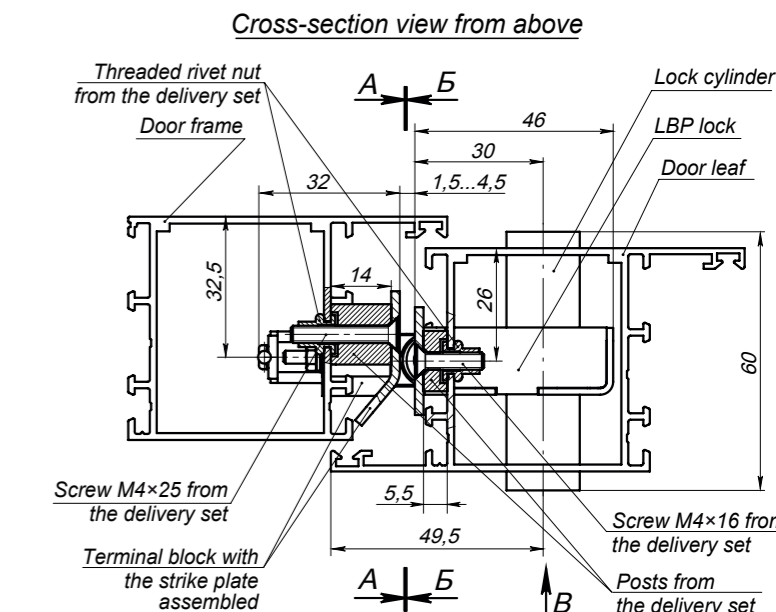

Fig. 3. Lock with the terminal block BP-2 assembled (views A, B and B are indicated in the installation templates)
- Door leafs AGS68_6863, AGS50_5213 and door frames AGS68_6864, AGS50_5215 (manufactured by «Agrisovgaz») or equivalent dimensionally (Fig. 3).
4. **For the lock with the strike plate BP-2.** Mount the lock (1) in a location slot in the door leaf. Enclose posts from the delivery set under the lock attachment points and fix the lock with screws M4×16 (5) (Fig. 3).